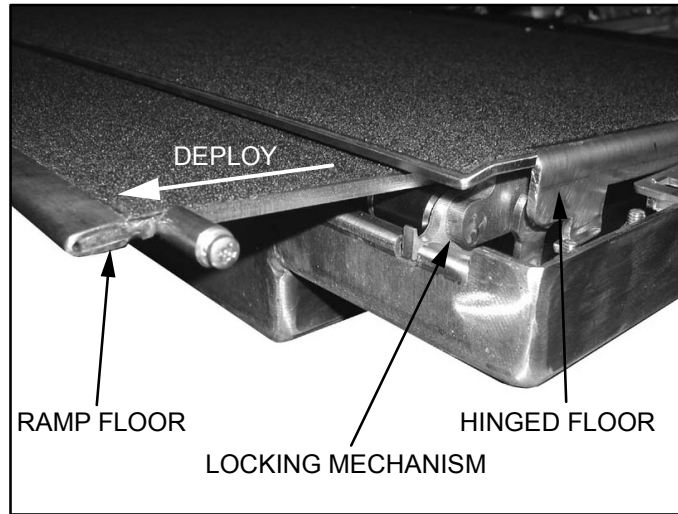

Figure 4-3: DISENGAGE RAMP FLOOR
- a. Refer to **Figure 4-3**. Deploy ramp approximately 7.6cm in order to disengage ramp floor from the locking mechanism.
- a. Refer to **Figure 4-3**. Deploy ramp approximately 7.6cm in order to disengage hinged floor from the locking mechanism.
- Refer to **Figure 4-3**. Deploy ramp approximately 7.6cm in order to disengage hinged floor from the locking mechanism.